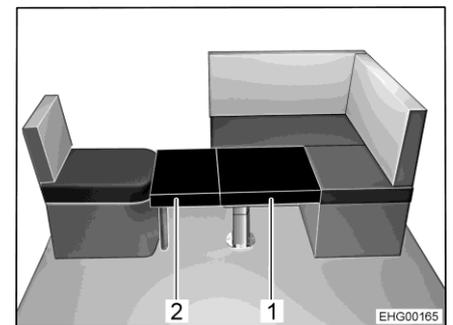

Fig. 119 After conversion
Together with the individual seat on the side and the shiftable lift-off table, the L-seating group can be converted into an additional bed. Two additional cushions are needed to create the lying surface. One of the additional cushions (Fig. 119,2) is equipped with a fold-out footrest and an angle bracket. The other additional cushion (Fig. 119,1) is placed on the table top.
- Fold footrest out on the smaller additional cushion (Fig. 119,2).
- Hook angle bracket of the additional cushion (Fig. 119,2) into individual seat and place additional cushion on the table top.
- Place the second additional cushion (Fig. 119,1) on the table top.